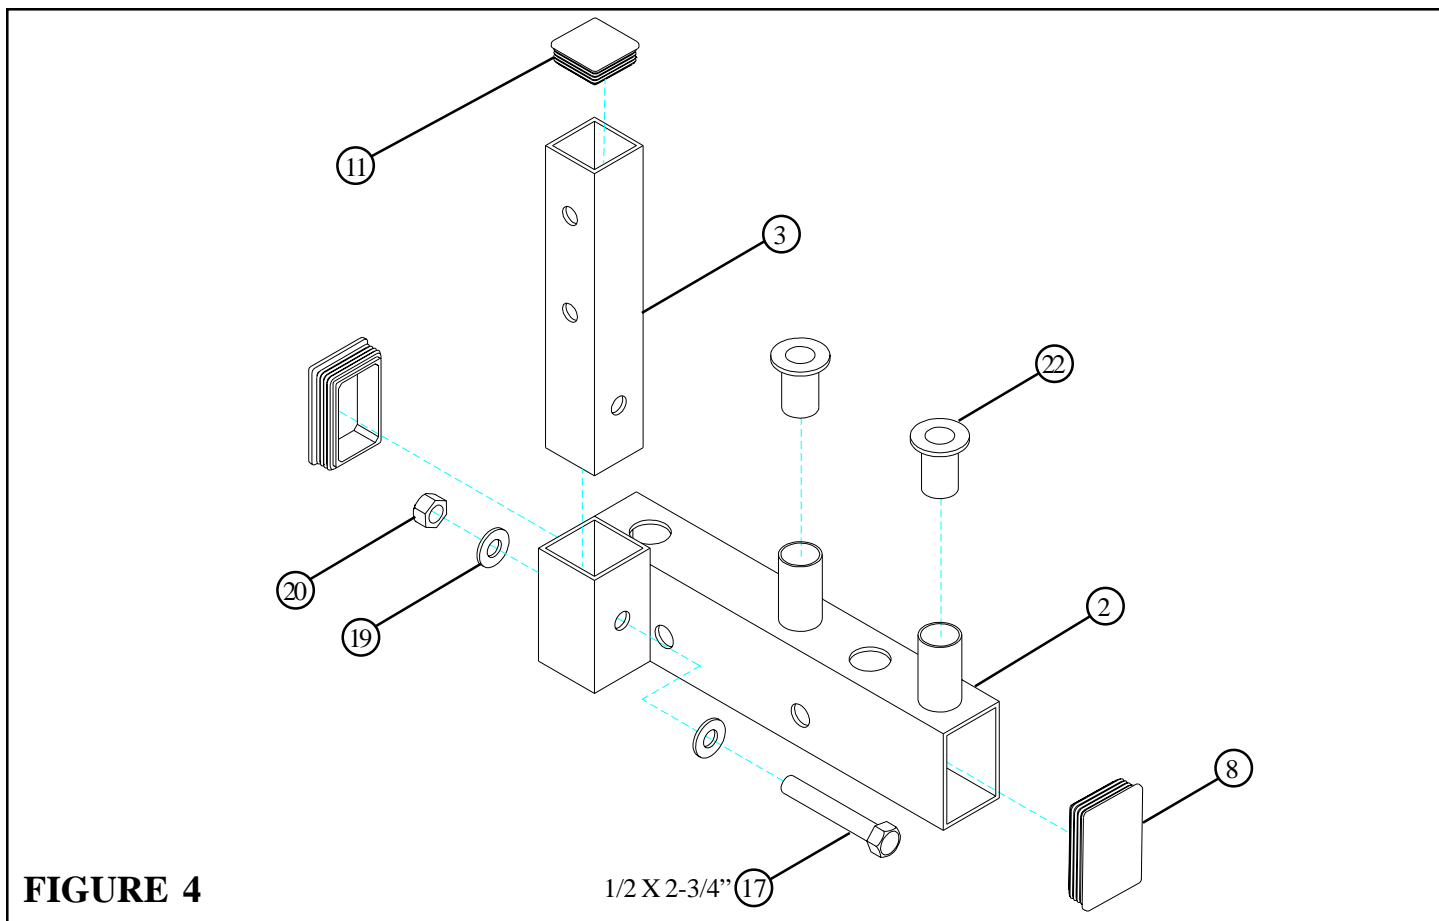

**FIGURE 3**
- Remove and discard one 2" SQ. END CAP from the end of the UPRIGHT FRAME as shown in FIGURE 3.
- Slide the CARRIAGE off the UPRIGHT FRAME and discard as shown in FIGURE 3.